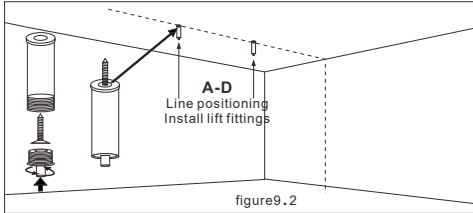

figure9.2
2. In the track installation area, mark the straight line and position the installation position with tools, and install the suspension fittings;(See Figure 9.2)